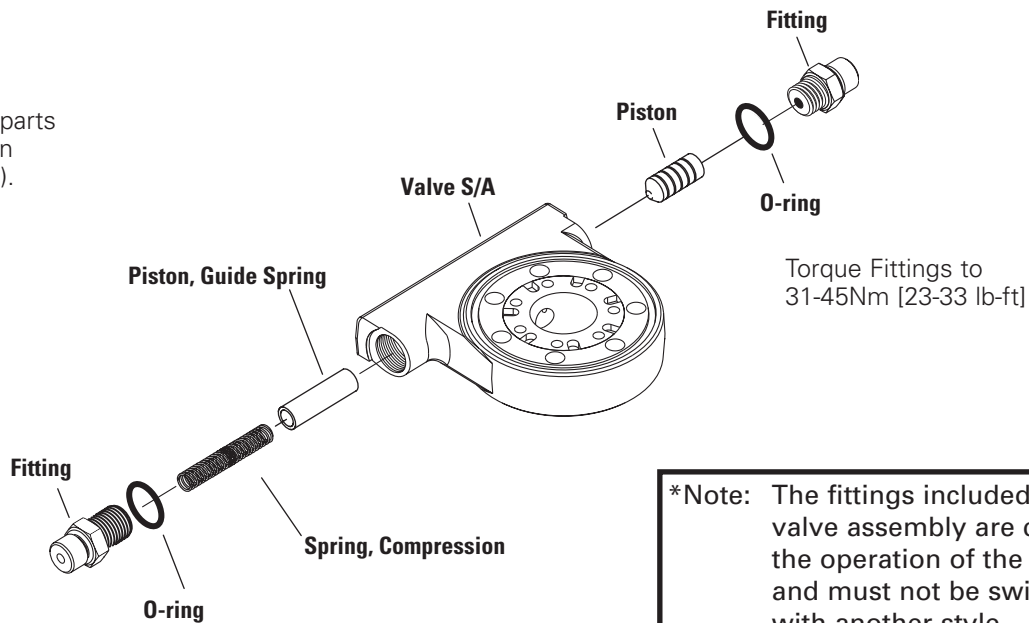

Figure 9
1. Reassemble valve parts with new o-rings on plugs (See figure 9).